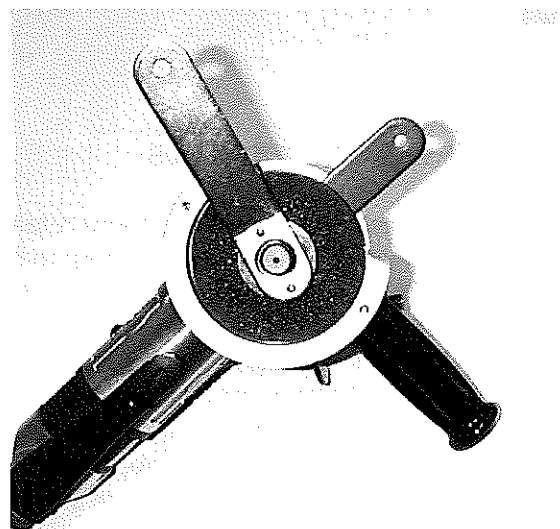

Fig. 5
3. Loosen and remove the flange nut using the spanner and stamped wrenches that came with your unit (See Fig. 5).